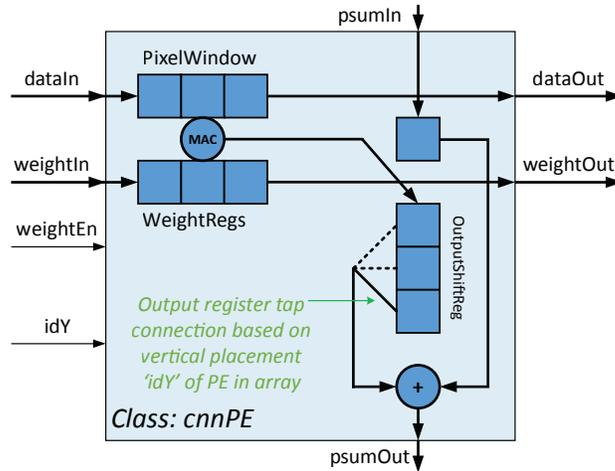

Figure 5: Eyeriss processing element
This toolkit demonstrates how to code an Eyeriss1 processing element (PE) array in C++ that implements a 2-D convolution to perform image enhancement (sharpen, blur, and edge-detect). The processing element (Figure 5) can perform a 3x1 multiply accumulate (convolution).